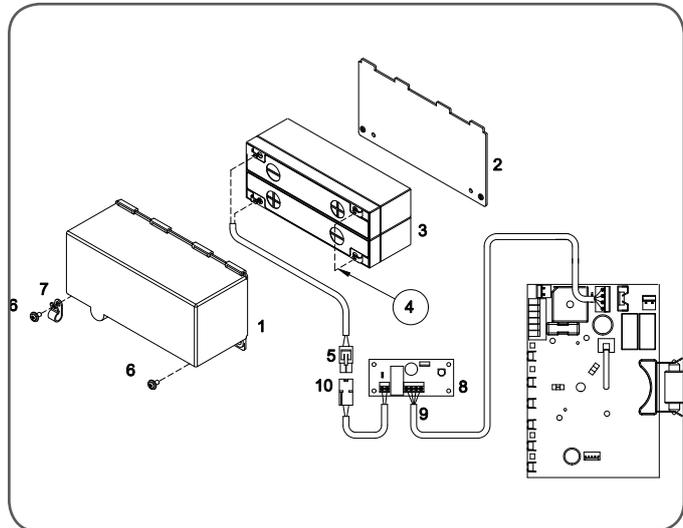

fig 08
- Connect battery harnesses 5 and 10 together (Fig 08).